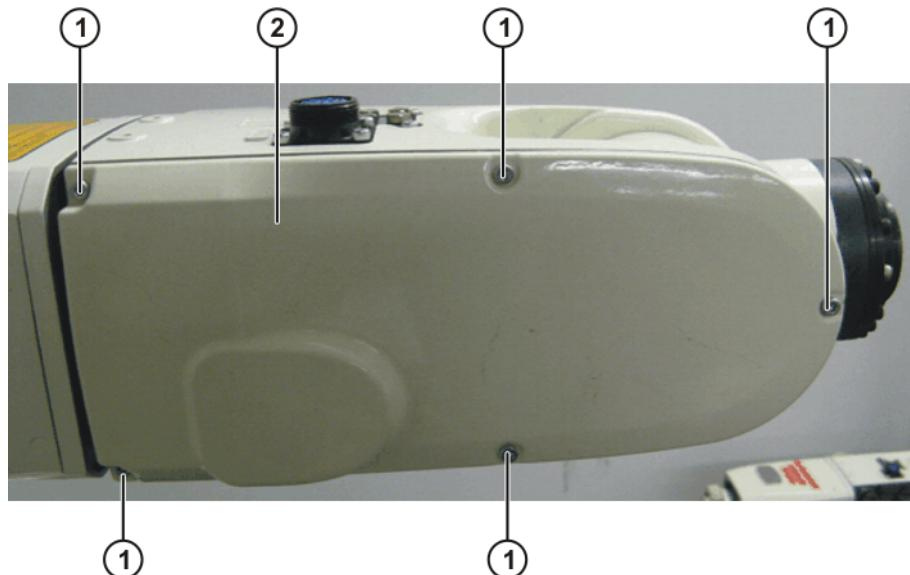

Fig. 10-1: Cover A5
1. Remove 5 screws (">>>> Fig. 10-1) from the arm.
7. Mount the cover (>>> Fig. 10-1).